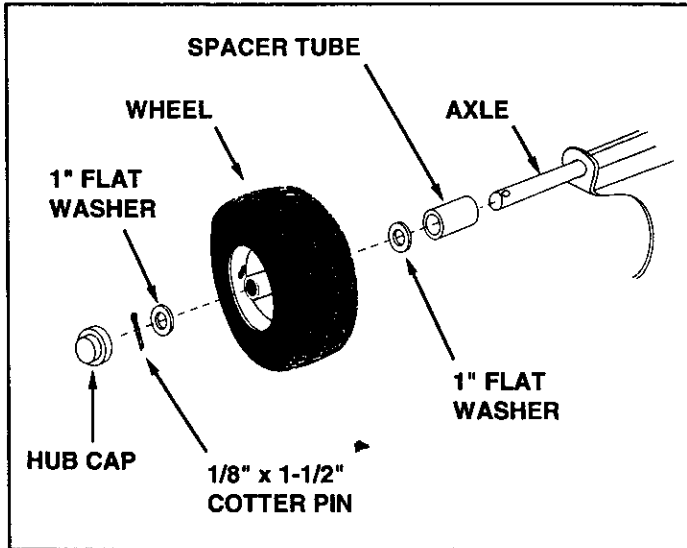

FIGURE 8
- Assemble a spacer tube onto each end of the axle as shown in figure 8.
- Assemble a 1" flat washer, a wheel (valve stem facing out), and another 1" flat washer onto the axle as shown in figure 8. Secure the wheel with a 1/8" x 1-1/2" cotter pin, spreading the ends so that a hub cap will fit over the pin. Assemble the hub cap by pressing it onto the flat washer. Repeat on other end of axle.